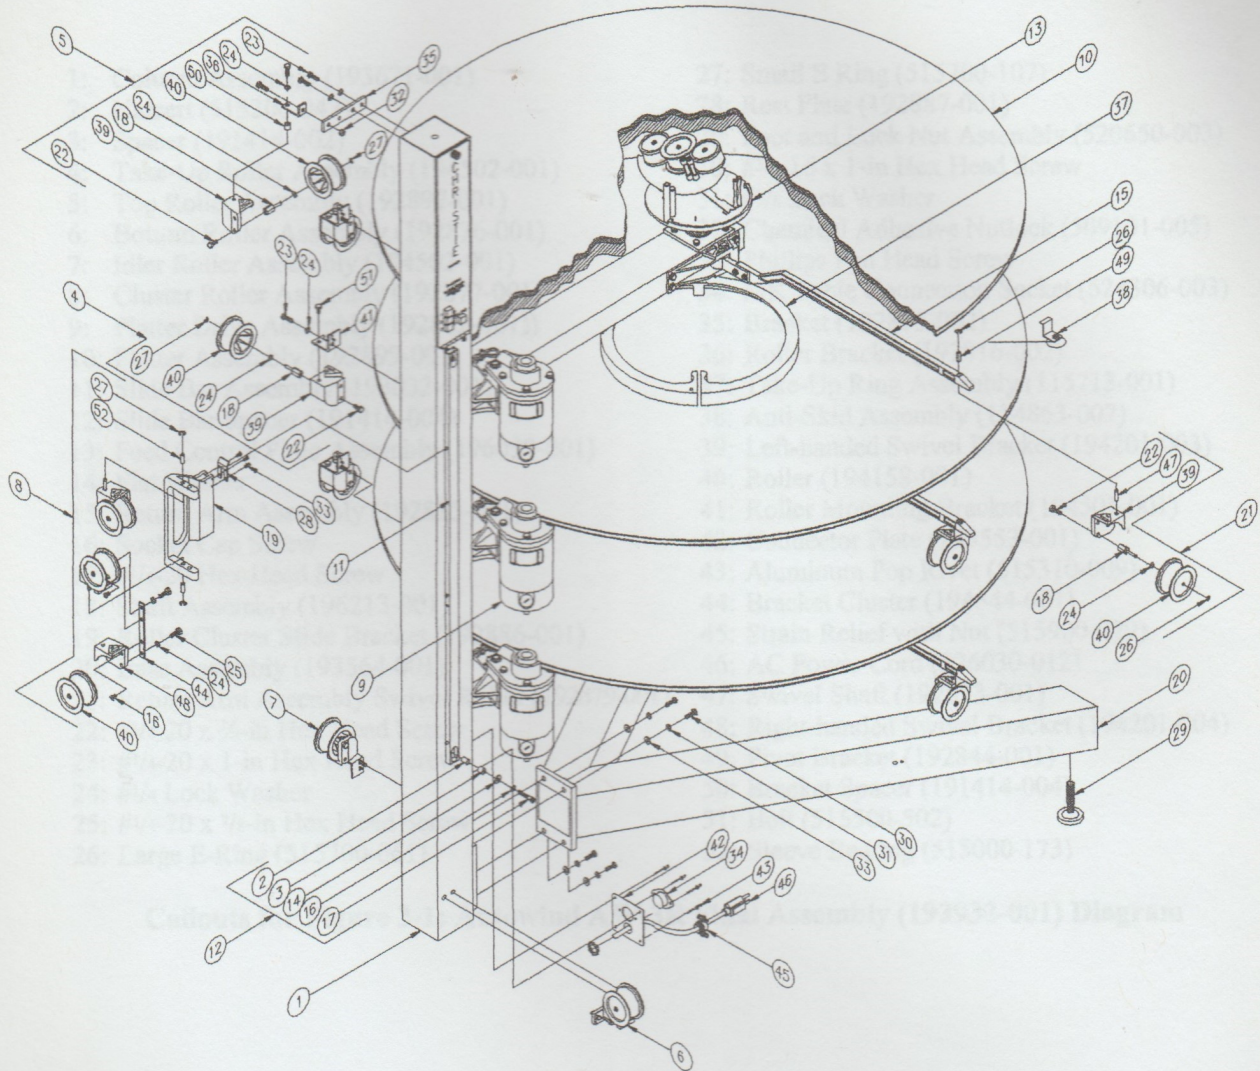

Figure 3-1: Autowind AW-3R Final Assembly (193932-001) Diagram
1. Attach main column (item 1 in Figure 3-1) to base (item 20 in Figure 3-1), using four  $\frac{3}{8}$  x 1.0-inch hex head cap screws, lock washers, and flat washers. Make sure that base is perpendicular to column. Tighten securely.
2. Using carpenter's level, verify that platter disks are level front to back and side to side. Adjust leveling feet (item 29 in Figure 3-1) if necessary. Erratic operation can result if platter is not level.
**Callouts for Figure 3-1: Autowind AW-3R Final Assembly (193932-001) Diagram**